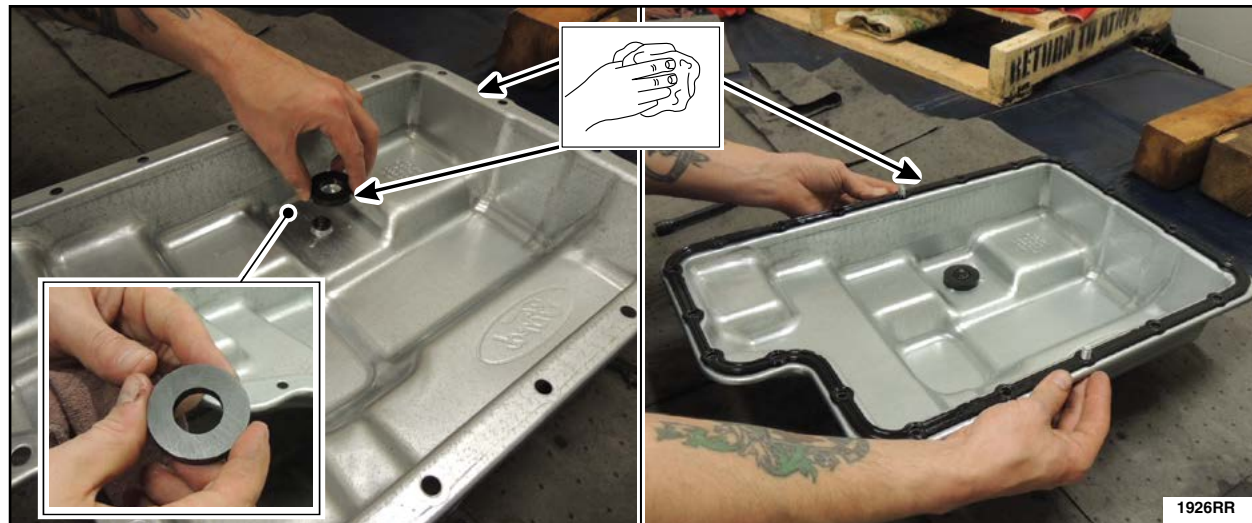

FIGURE 48
46. Clean the transmission fluid pan, magnet and the gasket mounting surface. Position the magnet over the dimple in the transmission fluid pan and position the transmission fluid pan gasket onto the transmission fluid pan. See Figure 48.